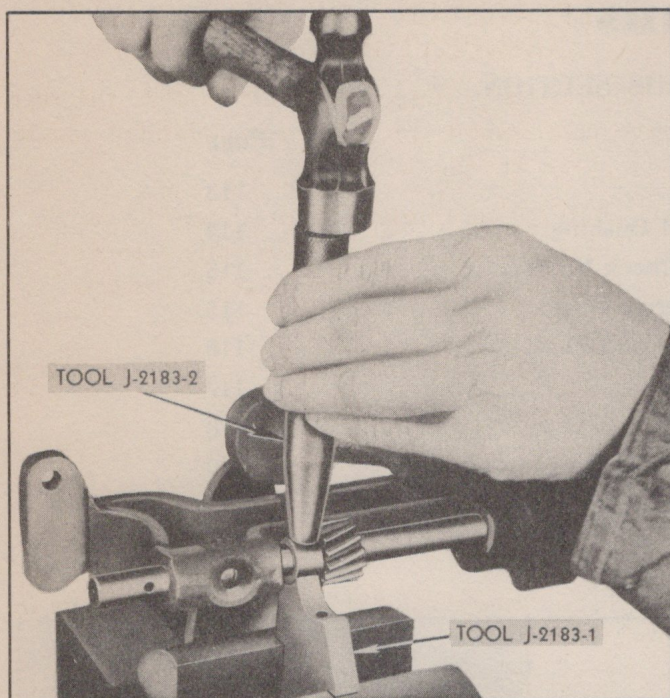

Fig. 212—Peening Drive Gear Pin
8. Peen ends of pin to fill holes in shaft and gear (Fig. 212). (Tools J-2183-1 and J-2183-2 are helpful in this operation.)